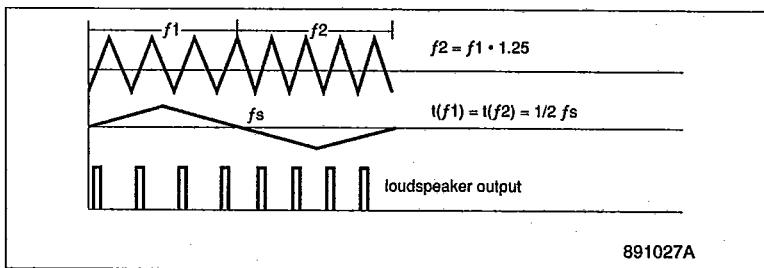

Figure 23.
**Basic mode:** The ringing tone in the basic mode is set by capacitors; the main frequency at pin 13, HFμPS; and the shift frequency,  $f_s$  (see figure 23), at pin 12, LFμPA. Smaller adjustments in the frequencies can be made by a series resistor to the capacitors. The approximate frequency calculation formula is: